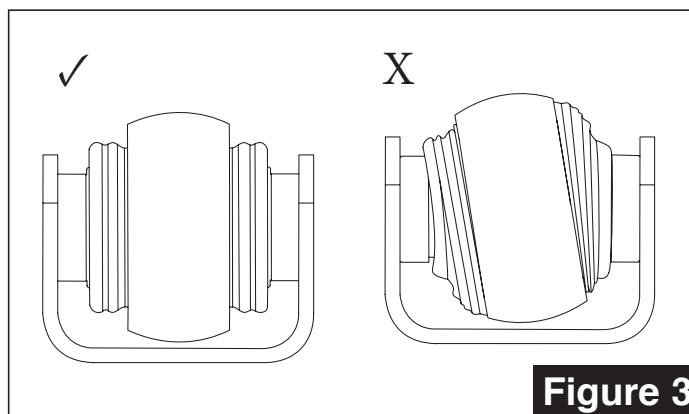

Figure 3
5. When adjustment is complete, ensure long section of track bar with xAxis™ bushing is properly centered within axle bracket, see **Figure 3**. Tighten both jam nuts against respective tube ends while holding center adjuster hex to preserve alignment settings. Torque track bar mounting hardware to manufacturer's specifications.